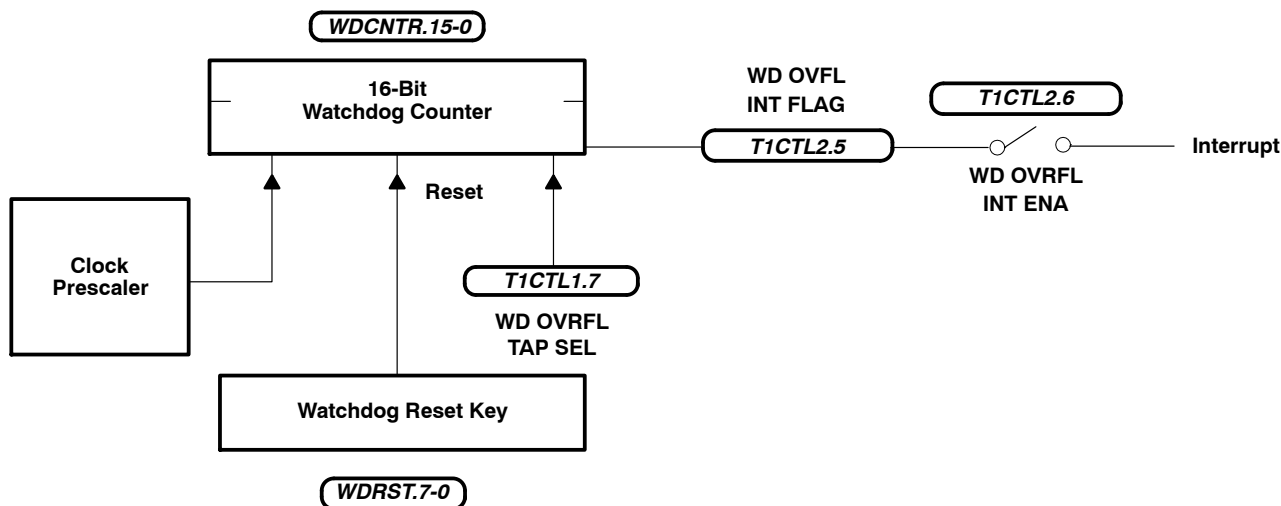

Figure 11. Simple Counter
- Simple-counter configuration for mask-ROM devices only (see Figure 11)